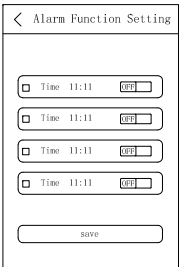

Fig. 11
- c.Press the three-point icon at the top-right corner to set timer for the alarm function (as shown in Fig. 11). After completing the timer setting, press “Save” to save all the settings.